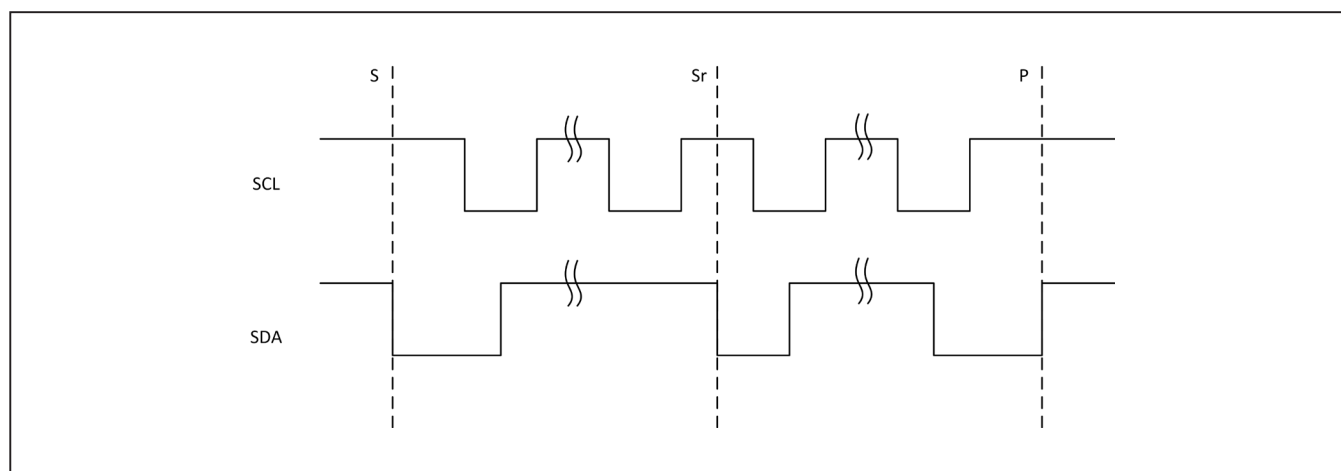

Figure 30. START, STOP, and REPEATED START Conditions
The MAX98372 features an I²C 2-wire serial interface consisting of a serial data line (SDA) and a serial clock line (SCL). SDA and SCL facilitate communication between the IC and the master at clock rates up to 400kHz. Figure 30 shows the 2-wire interface timing diagram. The master generates SCL and initiates data transfer on the bus. The master device writes data to the IC by transmitting the proper slave address followed by the register address and then the data word. Each transmit sequence is framed by a START (S) or REPEATED START (Sr) condition and a STOP (P) condition. Each word transmitted to the IC is 8 bits long and is followed by an acknowledge clock pulse. A master reading data from the IC transmits the proper slave address followed by a series of nine SCL pulses. The IC transmits data on SDA in sync with the master-
SDA and SCL idle high when the bus is not in use. A master initiates communication by issuing a START condition. A START condition is a high-to-low transition on SDA with SCL high. A STOP condition is a low-to-high transition on SDA while SCL is high (Figure 30). A START condition from the master signals the beginning of a transmission to the IC. The master terminates transmission, and frees the bus, by issuing a STOP condition. The bus remains active if a REPEATED START condition is generated instead of a STOP condition.